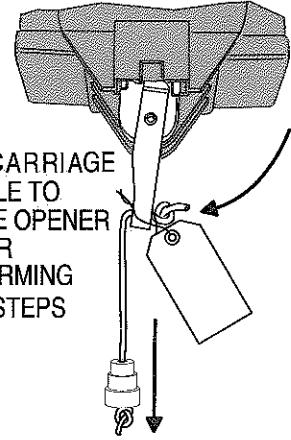

Figure 4 Disengage carriage
Be sure the carriage is disengaged from the belt before performing the following portion of the Safety-T-Beam® testing. The carriage is disengaged when the release lever is pointing down (Figure 4).
- Check that the Carriage is disengaged (Figure 4).
- Press the wall button to move the bullet (Figure 5) to the open position (away from the door) (Figure 4).